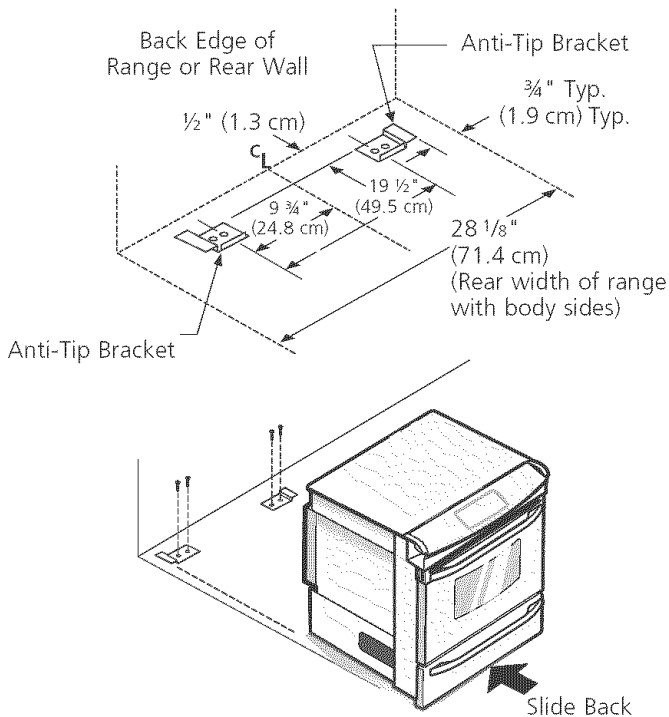

Figure 12
1. Unfold paper template and place it flat on the floor with the back and side edges positioned exactly where the back and sides of range will be located when installed. (Use the diagram below to locate brackets if template is not available. (figure 12))